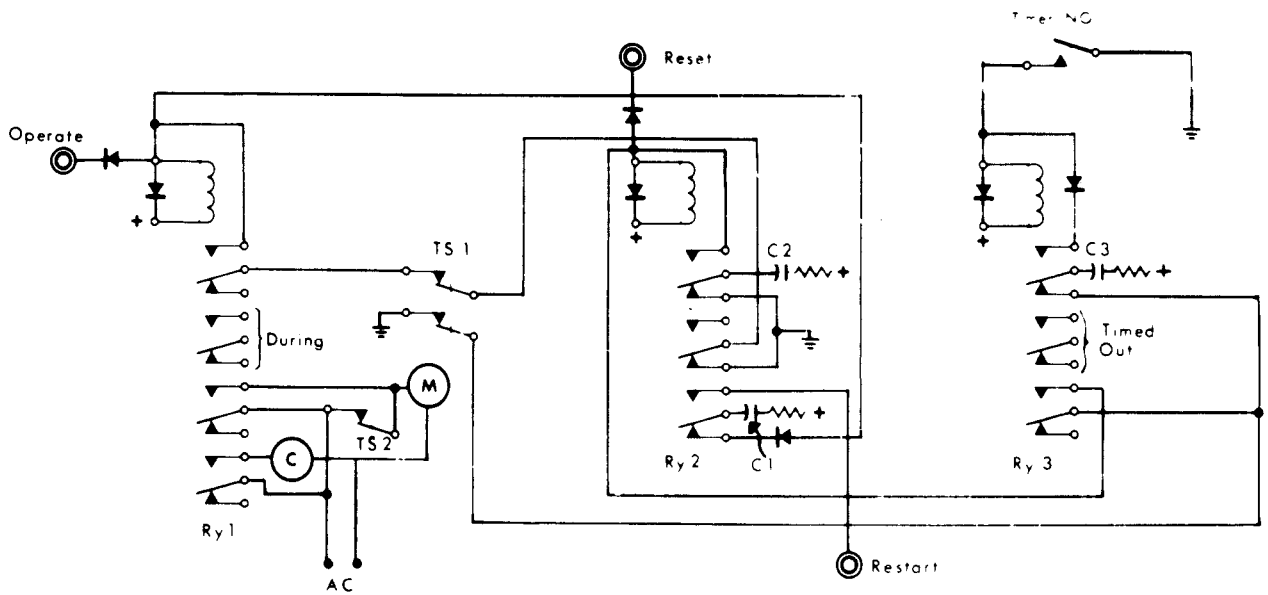

Fig. 1. A diagram for adapting the Tenor Timer. Motor (M) and clutch coil (C) are operated by 110 V ac.
removed for cleaning or repairs. This is accomplished by a sleeve and connector arrangement, shown in Fig. 1, which can be used to separate the surrogate from the pivot and clock.
The schematic presented here (Fig. 1) offers an extremely versatile circuit for the adaptation of the Tenor Timer for use with snap lead or other electro-mechanical equipment. The completed module can function in the following modes: (1) Pulse-Operate—A negative pulse to the "operate" stud starts the timing interval which continues until the